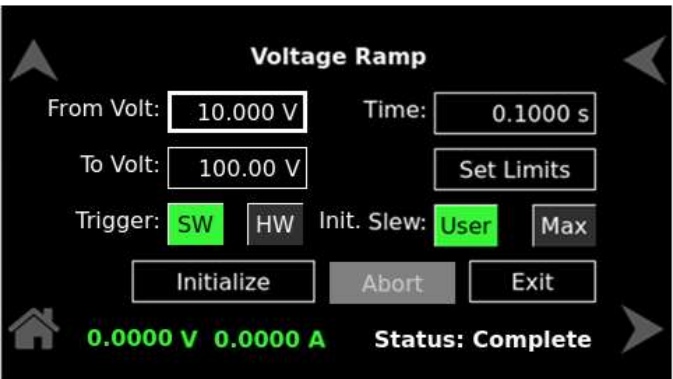

Figure 8-64. Status- Completed
f) **Complete:** When the ramp execution (bringing the voltage from 'From Volt' to 'To Volt') is completed. Refer to Figure 8-64.